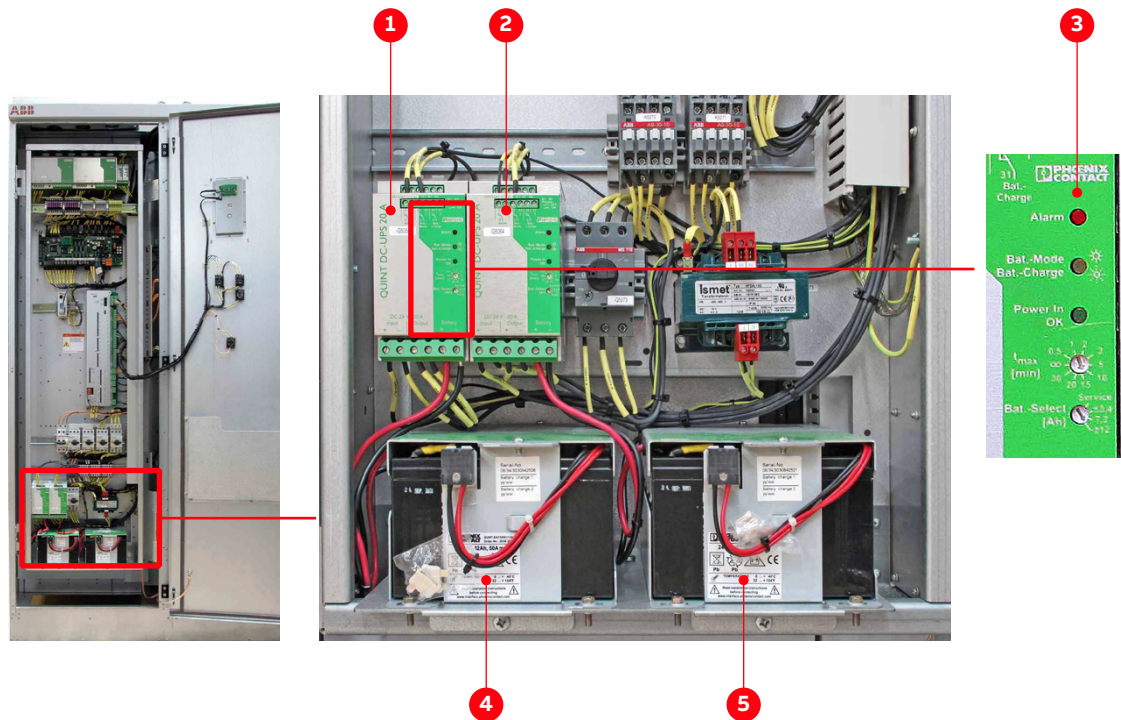

Figure 11-6: Control compartment – battery location
- Alarm LED on the power supply unit for the battery lights up (3 in Fig. 11-6).